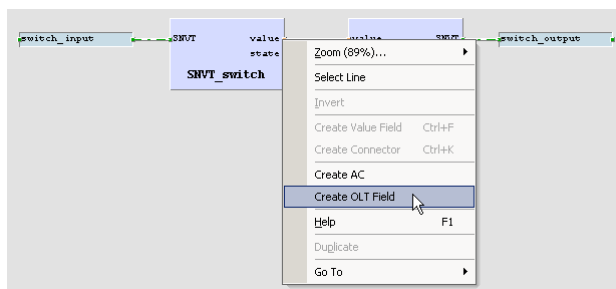

Figure 24: Create online test fields
12. For later debugging, it is good practice to add online test fields to the drawing, to display the current value of the signals during online test. To do this, right-click on the value output of the left function block and select **Create OLT Field** from the context menu, as shown in Figure 24.